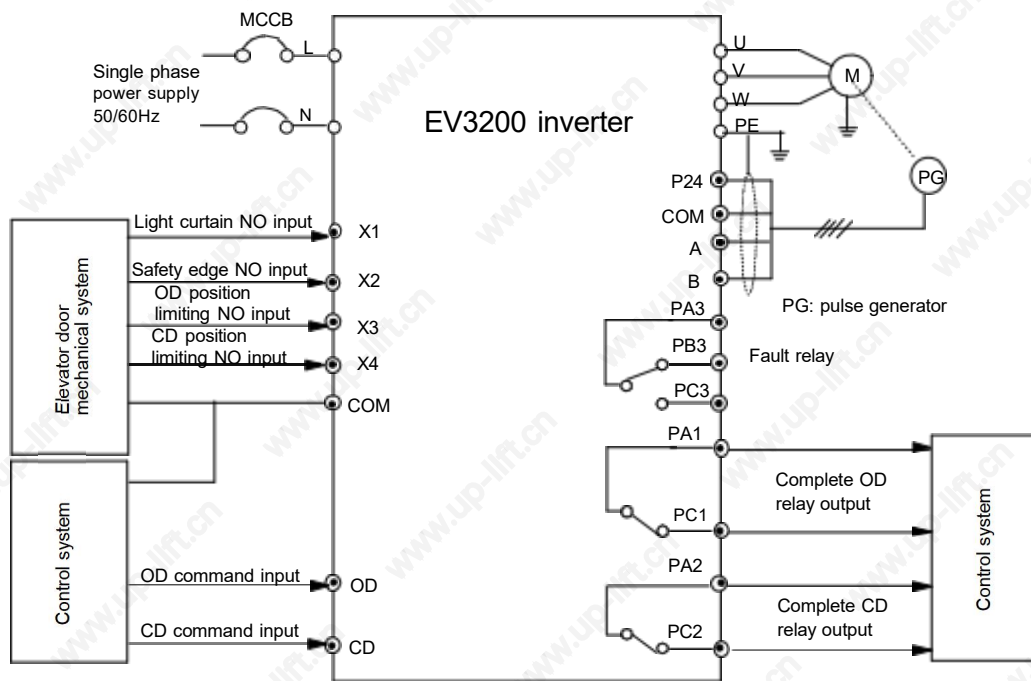

Figure 7-5 System wiring diagram for distance control 3(asynchronous motor)
1. Do the wiring according to Figure 7-5.